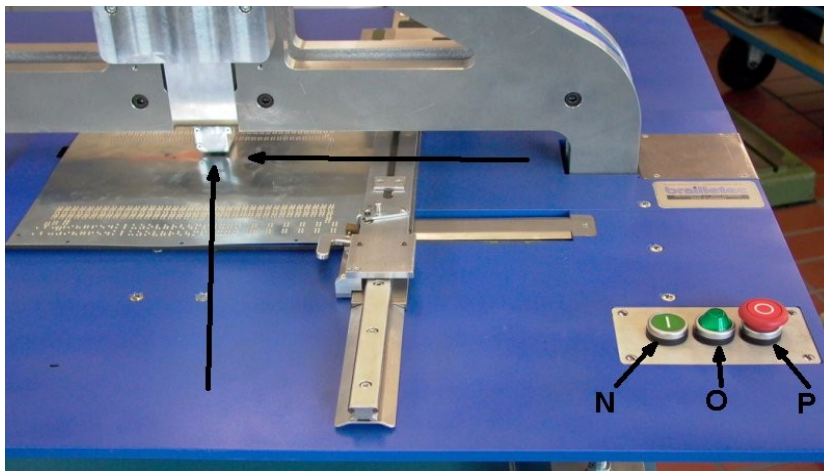

Fig. 1.5
- Now press the pushbutton 'N' (Fig. 1.5). The following actions must happen:
- If this happens correctly, press pushbutton 'N' (Fig. 1.5) for a second time.